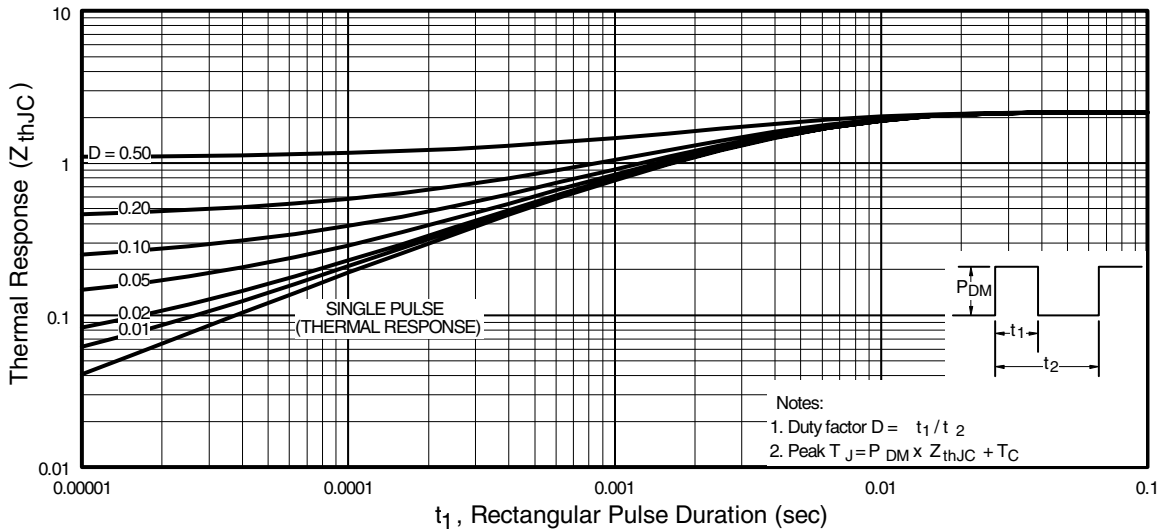

Fig 11. Maximum Effective Transient Thermal Impedance, Junction-to-Case
- ① Repetitive rating; pulse width limited by max. junction temperature. (See fig. 11)
- ② Starting T_J = 25°C, L = 2.3mH